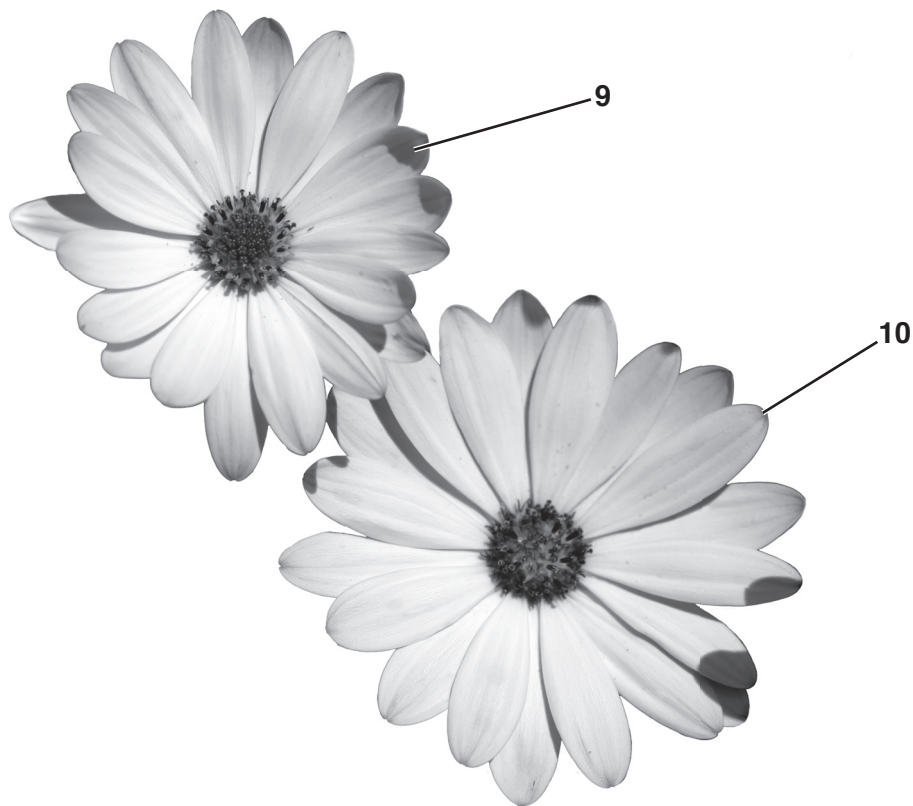

Fig. 2.2
Fig. 2.2 shows some of the daisy flowers of species **A**.
- (b) (i)** Count the number of petals on flowers **9** and **10** in Fig. 2.2 and record the number of petals in Table 2.1.